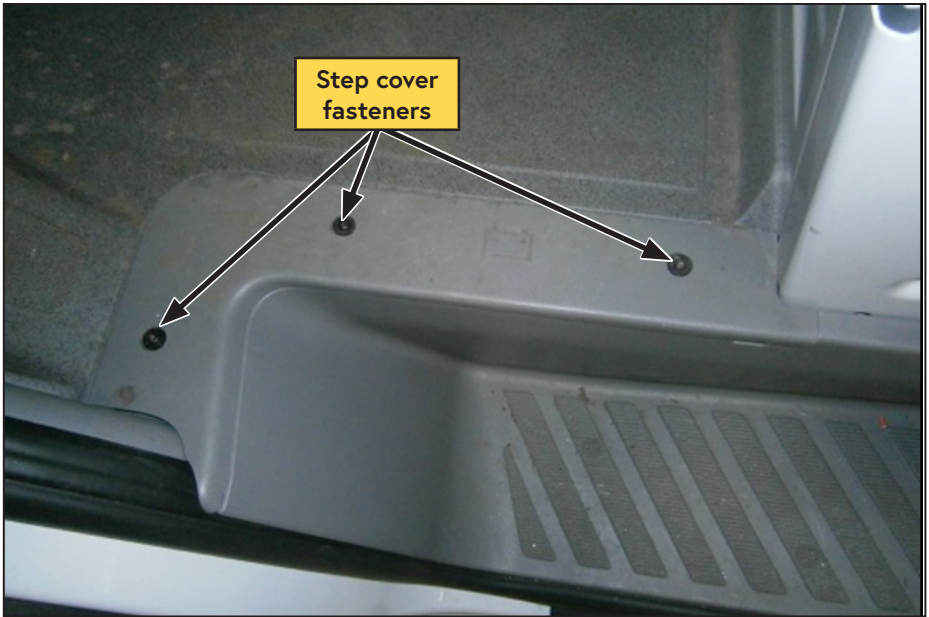

Figure 45 — Remove step cover and mat
- Remove the driver side step cover and floor mat (Figure 45).